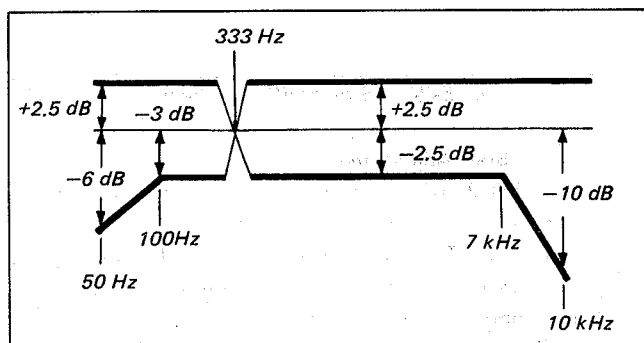

Fig. 5-35. Overall frequency characteristic
- (1) Connect TP506 and TP505 (GND) with a jumper wire so as to turn off the AGC operation.
- (2) Connect a 333 Hz signal.
- (3) Set up the E-E mode and adjust the oscillator output level so that the level meter reading is -30 dBs.
- (4) Record signals.
- (5) Change the frequency to 50 Hz, 100 Hz, 7 kHz and 10 kHz and repeat Steps (3) and (4).
- (6) Play back the recorded section of the tape and verify that the level is within the specification. (See Fig. 5-35.)